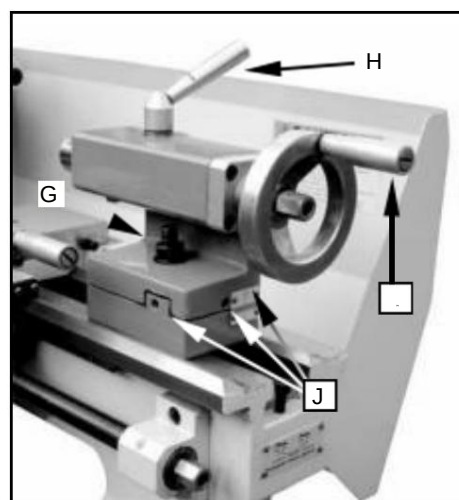

Fig. 12
10. Tailstock Clampingskruv (G, Fig. 12)
11. Tailstock Quill Clamping Spak (H, Fig. 12)
12. Tailstock Quill Traverse Handwheel (I, Fig. 12) .